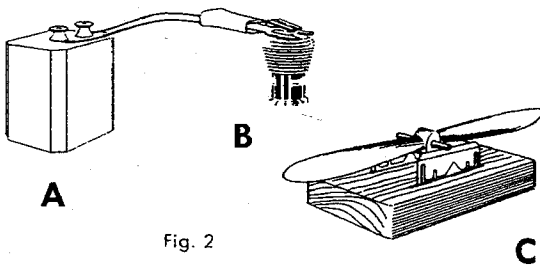

Fig. 2
4. Procure a 1 1/2 volt dry cell battery, #6 or equivalent, and connect it with 2 flexible insulated wires to a glow plug clip as shown in the diagram A and B-Fig. 2. Do not use a stronger battery. If you do, the plug will burn out. The connections should be soldered to ensure good contact and taped to prevent bare ends of wire from getting together and "shortening" the battery. Be sure the battery is a good one. Your dealer sells batteries and glow plug clips. The Thimble-Drome plastic mounted glow plug clip with wires already attached is recommended.
5. Balance and trim propeller. This is very essential for good performance. Sand off any bead of plastic along edges of blades. Fit a drill or shaft through the hole and rest the shaft on razor blades set in wooden blocks as shown in C-Fig. 2. Sand the heavy blade until the propeller will balance in a horizontal position. Care must be exercised to do the sanding without spoiling the airfoil characteristics.
5. Connect the battery by snapping the clip on the glow plug, B-Fig. 2.